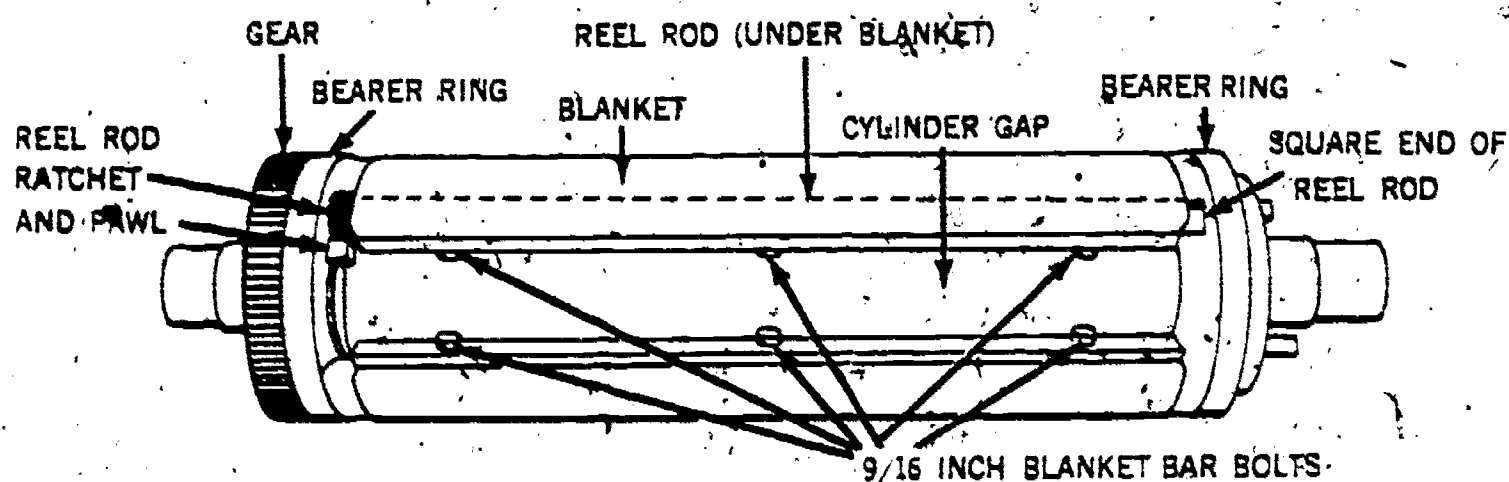

Figure 8-26. Blanket cylinder assembly.
(2) *Mounting blanket* (fig. 8-26).